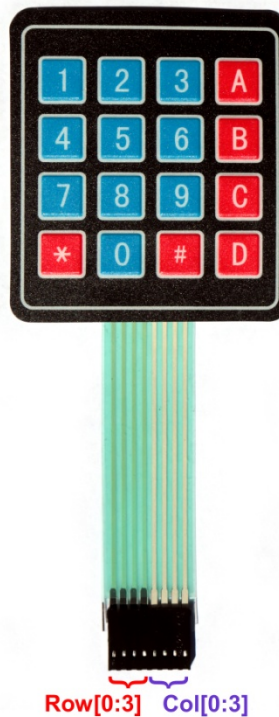

Figure 5. Keypad pinout.
1. Use the continuity test feature of the multimeter to verify that the 8 pins of the keypad are wired as expected, left-to-right as rows 0 to 3, then columns 0 to 3 as shown in figure 5.